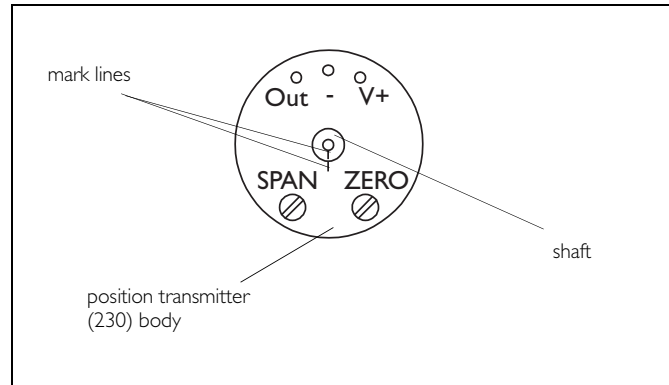

Fig. 9. Mark lines for rough adjustment seen from below
3. Turn the shaft to match the mark lines on the body and the shaft, see Fig. 9.
4. Tighten the retaining screw of the coupling (234).